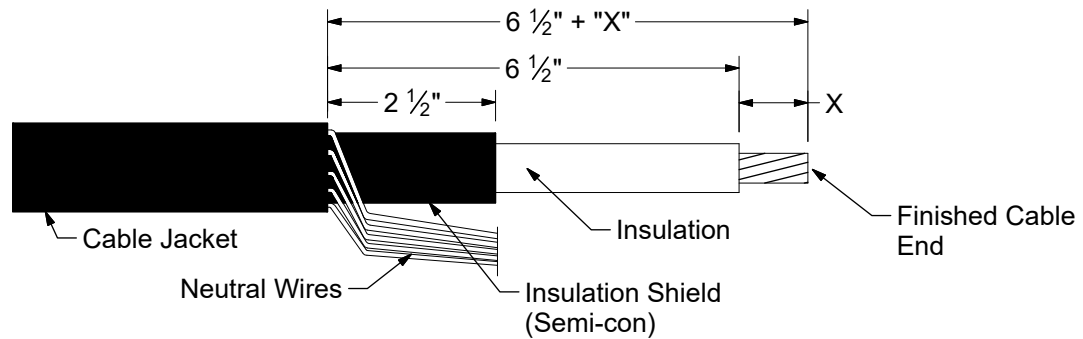

Figure 1
2. Prepare the cable using the dimensions shown in Figure 1. Be sure to check the lug or pin terminal connector being used to determine the insert depth "X". Provide an additional 1/4" of exposed conductor to allow for growth of the aluminum lug or connector during crimping.
1. Train cable into position and cut to required length. Strip the cable to the dimensions shown in Figure 1. Check the lug being used to determine insert depth "X". Provide an additional 1/2" of exposed conductor on 500 kcmil and smaller cables and 3/4" of exposed conductor on 750 kcmil cables. This will accommodate growth during crimping of aluminum lugs. If a shearhead bolt lug is used, additional exposed conductor is not required.